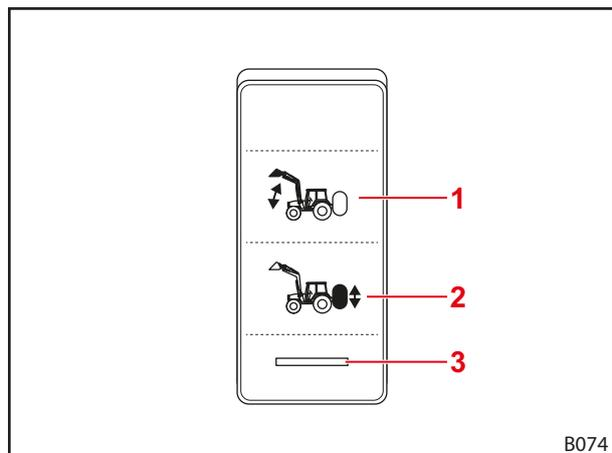

Fig. 73 Switch for Comfort hydraulic system
**i** When driving on roads and when the front loader is not needed, put the switch in the "Original Function Active" switch position (see Fig. 73) to prevent accidental actuation of the front loader!